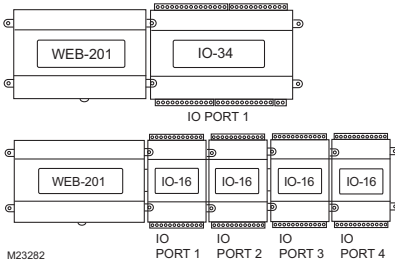

Fig. 10. WEB-201 controller NdioBoard (port) assignment.
Analog Outputs (AO) are referenced by the terminals labeled *An* and 0 V (ground). Each AO can supply a maximum of 4 mA over the entire 0 to 10 Vdc range. The minimum input impedance of a device controlled by an AO must be greater than 2500 ohms. Typical wiring for an AO is shown in Fig. 10.
In the Niagara station interface to the WEB-201 and WEB-600 controller, each I/O module appears as one **NdioBoard** under the station's **NdioNetwork**. If a controller has only one IO-34-H module, the NdioNetwork has a single **NdioBoard** component, where the "Io Port" property of the **NdioBoard** is 1. See Fig. 10, top.